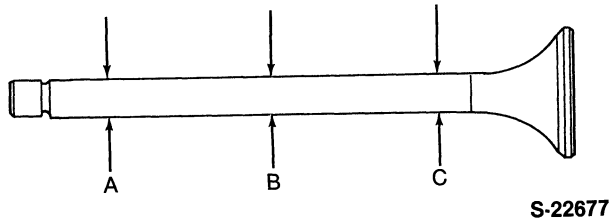

Figure 24
2. Using a micrometer, measure the stem diameter at three points "A," "B" and "C," Figure 24.